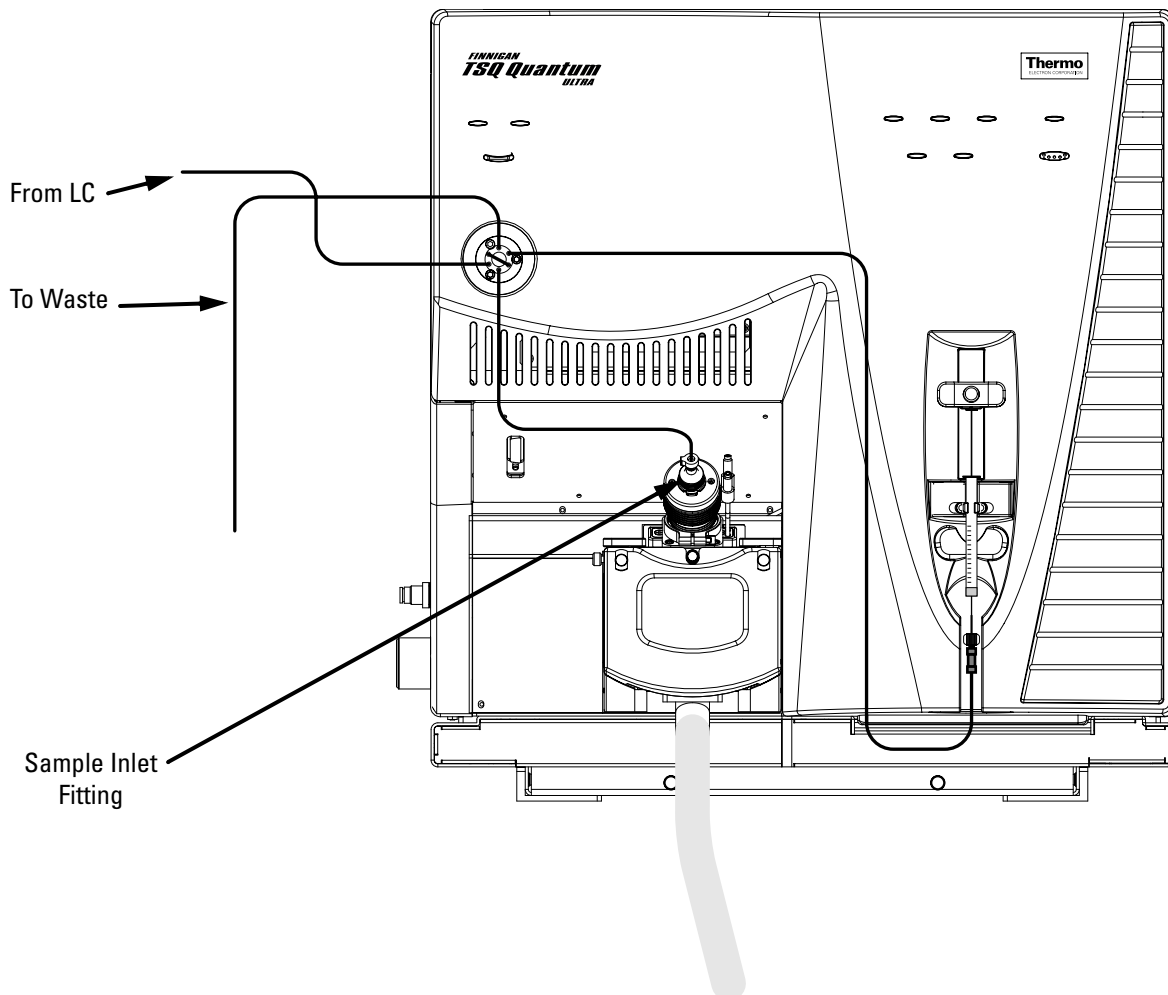

Figure 7-1. APCI/MS plumbing connections for sample introduction by auto loop injection into the solvent flow from an LC
The following procedure describes how to introduce your compound by auto loop injection. The plumbing connections for APCI/MS sample introduction from the syringe pump into the solvent flow from an LC are shown in Figure 7-1.
- c. Connect the other end of the tubing with a fingertight fitting and a ferrule to the sample inlet fitting (LC inlet). See Figure 7-1.